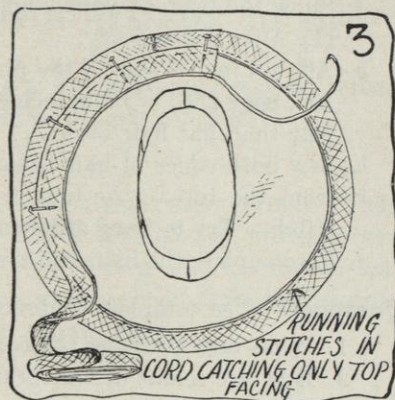

FIG. 3.
- f. Sew first row of braid with small running stitches, just where the cord of the braid is, making the stitches invisible, and being sure to catch only the top facing of the maline brim (see Figure 3).
- g. Pin the finished edge of the second row of braid just over the stitching in the first row, and make certain that the lap will come in the same place (see Figure 3).